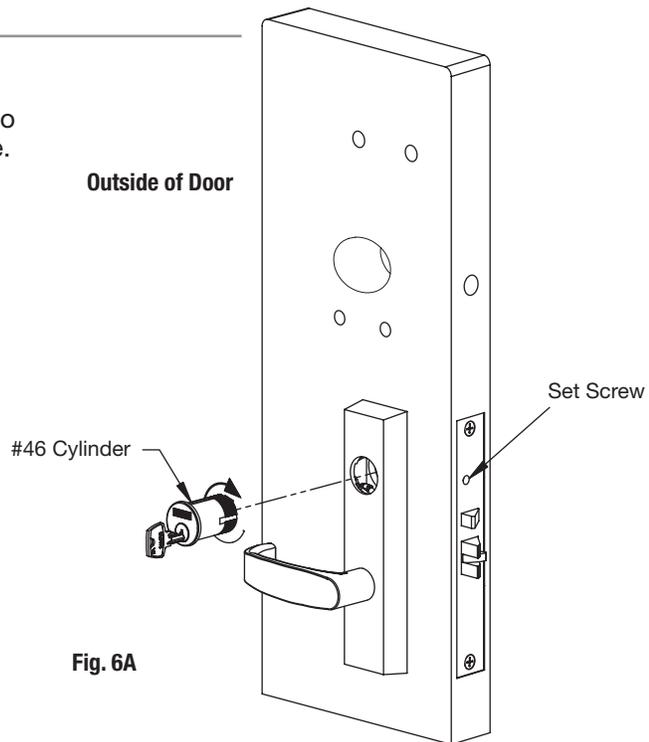

Fig. 6A
1. Insert connector end of DPS through the raceway on the latch edge of the door (Fig.6A).